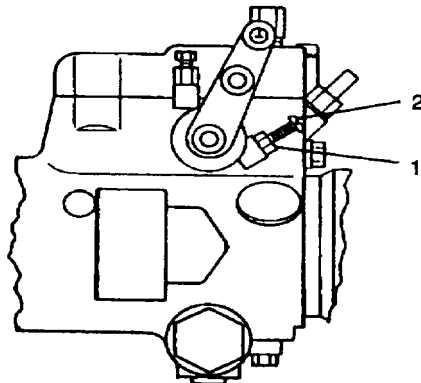

FIGURE 4-2. Fuel Injection Pump High Idle Speed Adjustment
- h. Loosen jam nut (1, FIGURE 4-2) and back out high idle stop screw (2) on fuel injection pump.
- (1) Turn **OVERSPD** control potentiometer clockwise one turn for each hertz generator set shut down prior to lower frequency limit.
- (2) Activate **OVERSPD RESET** switch.
- (3) Repeat steps i. and j
- n. Loosen jam nut (1, **FIGURE 4-2**), set high idle stop screw (2) to position recorded for step h., and tighten jam nut (1).